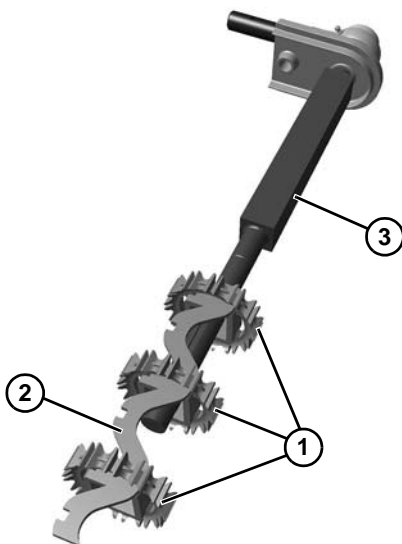

Figure 61
1. Assemble sprockets (**Figure 61, item 1**) to the slots of alignment bar (**Figure 61, item 2**), and install assembly onto drive spindle (**Figure 61, item 3**).